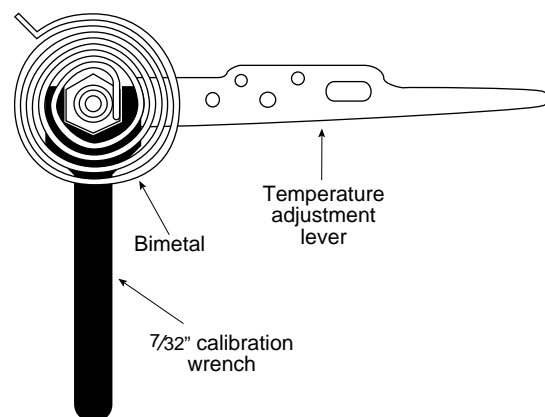

Figure 7. Calibrating thermostat
2. Remove thermostat cover. Slip $\frac{7}{32}$ " wrench onto hex nut beneath bimetal and hold temperature adjustment lever stationary. Turn hex nut clockwise until mercury shifts to right end of tube (see fig. 7).